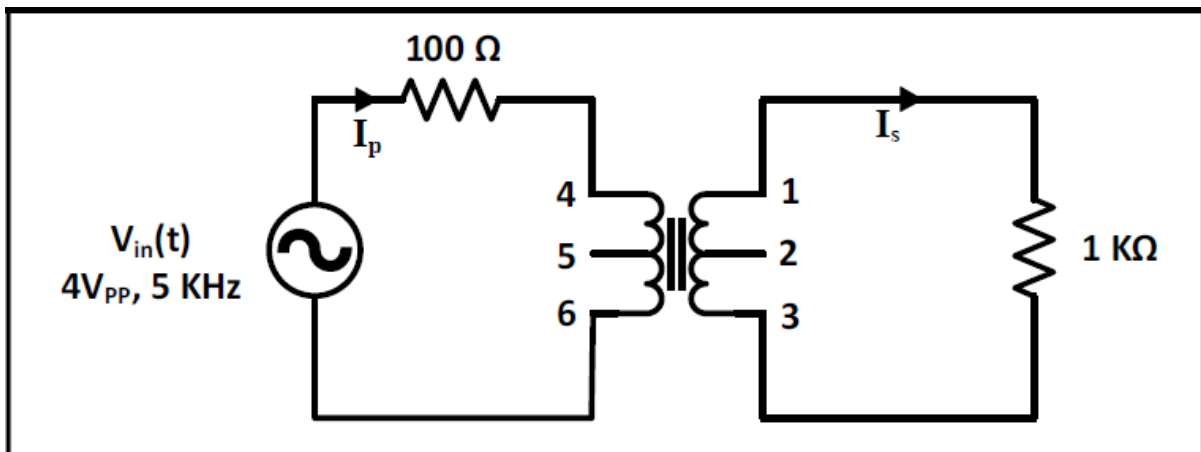

Figure 2.3
- 3) The circuit shown in the **figure 2.3** was connected, and  $V_{in}$  was set at  $4 V_{pp}$  and  $f = 5 \text{ KHz}$ , after that the  $V_p$ ,  $V_s$ ,  $I_p$  and  $I_s$  were measured using DMM. The results were recorded in table 4.